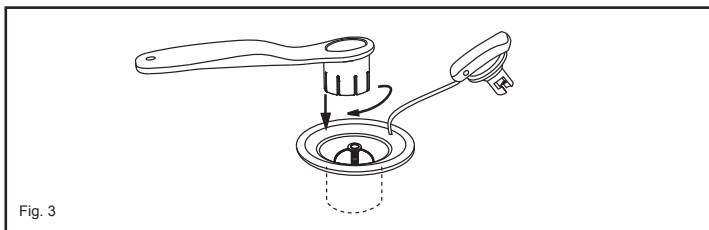

Fig. 3
4. Always carefully check and ensure the air valve is not leaking before using the kayak. If the air valve is leaking, use the provided wrench to tighten the valve. To securely tighten the valve, hold the valve from the bottom of the kayak and turn the wrench clockwise. After you have ensured the valve is not leaking, tighten the cap to close the valve. (Fig. 3)